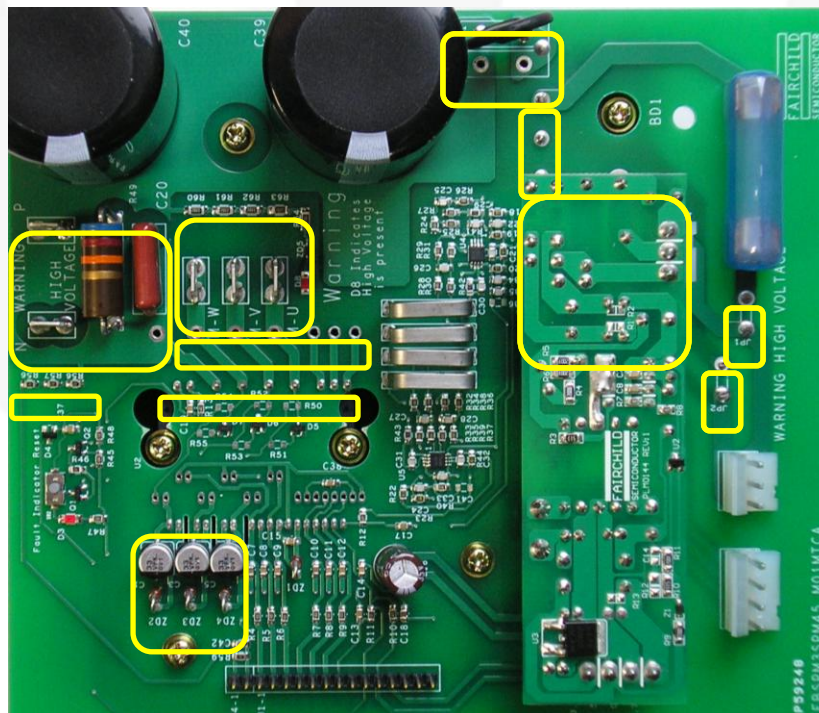
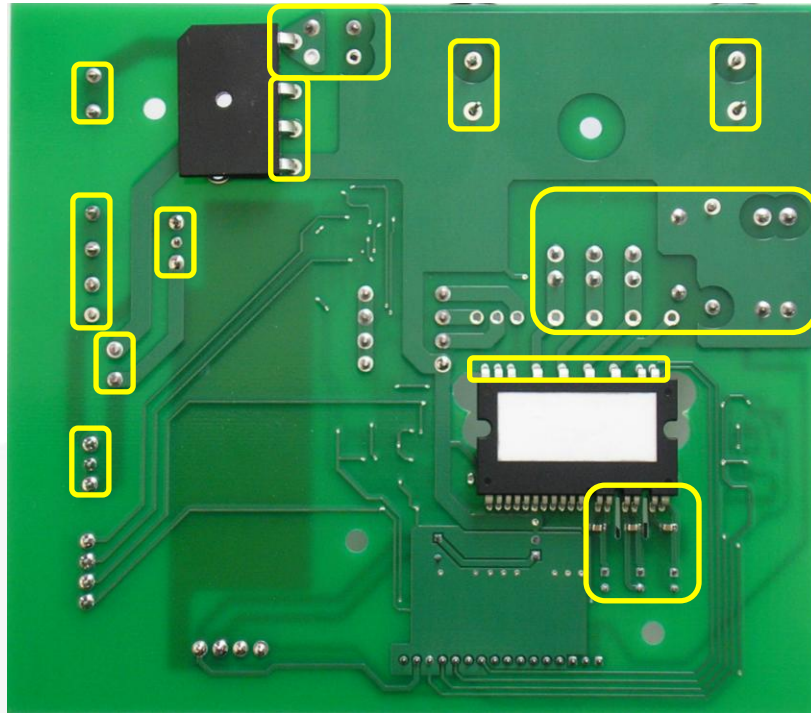

Figure 4. High Voltage Areas (Top Side)
Figure 5. High-Voltage Areas (Bottom Side)
- See Figure 4 and Figure 5 for areas on the board that must be avoided due to the presence of HIGH VOLTAGES. When bulk capacitors are charged, avoid contact with board circuitry.